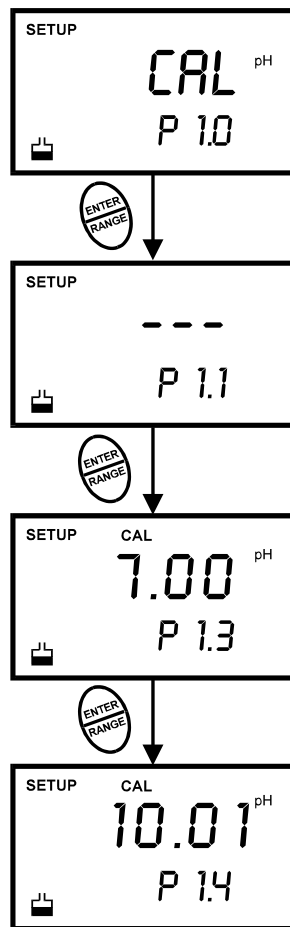

Figure 26 – P1.0: View calibration data for pH
4. Press the **ENTER** key repeatedly to view previous calibration data. See Figure 26.